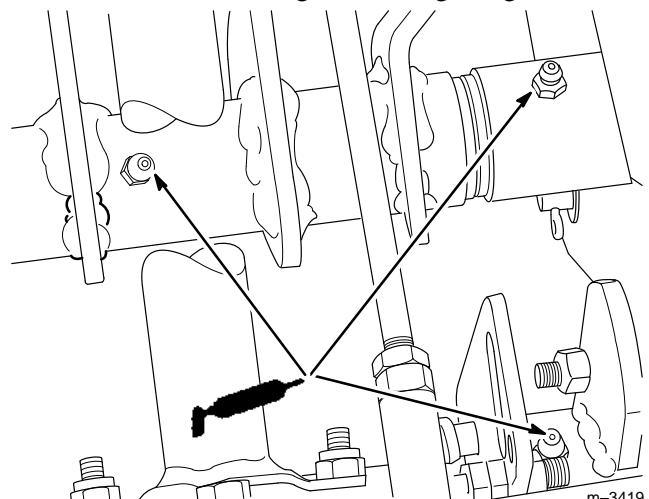

Figure 34
4. Lubricate the three grease fittings (Fig. 34)